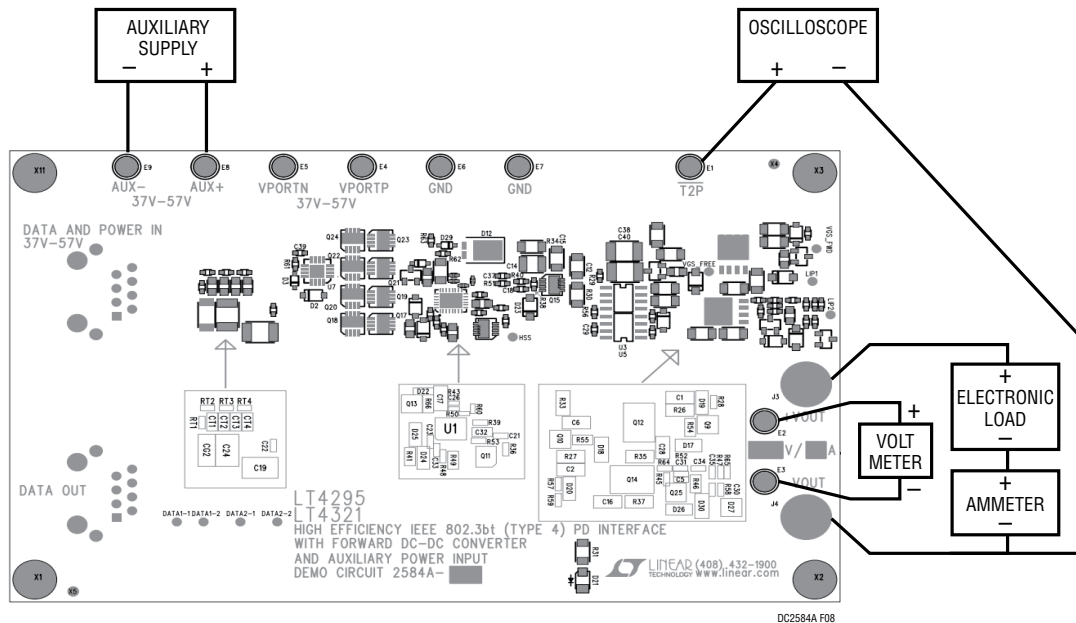

Figure 8. Setup Diagram for Auxiliary Supply Input
1. Place and connect test equipment (voltmeter, ammeter, oscilloscope, and electronic load) as shown in Figure 8.
3. Connect the output of the auxiliary supply to the DC2584A as shown in Figure 8. Turn on the auxiliary supply and set its current limit to 2A. Then increase its output voltage to 48V.
6. Verify $\overline{T2P}$ response with an oscilloscope as shown in Figure 8. The $\overline{T2P}$ response during auxiliary power operation is: 75% Logic High/25% Logic Low, Toggle at $976Hz \pm 7\%$.